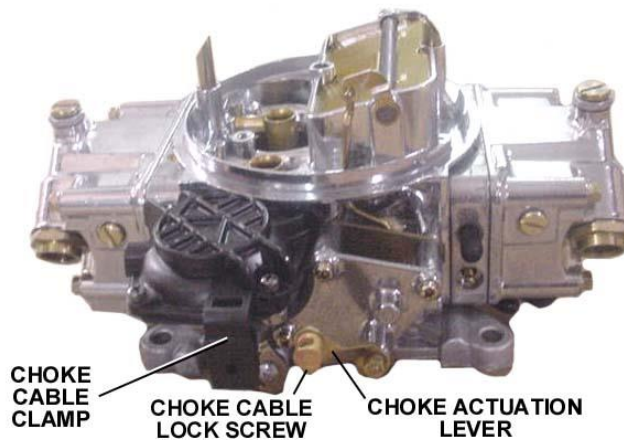

**Figure 9**
3. If the fast idle RPM is too low or too high for your preferences, TURN THE ENGINE OFF. Advance the throttle to wide-open, exposing the fast idle set screw below the choke housing (See **Figure 9**).